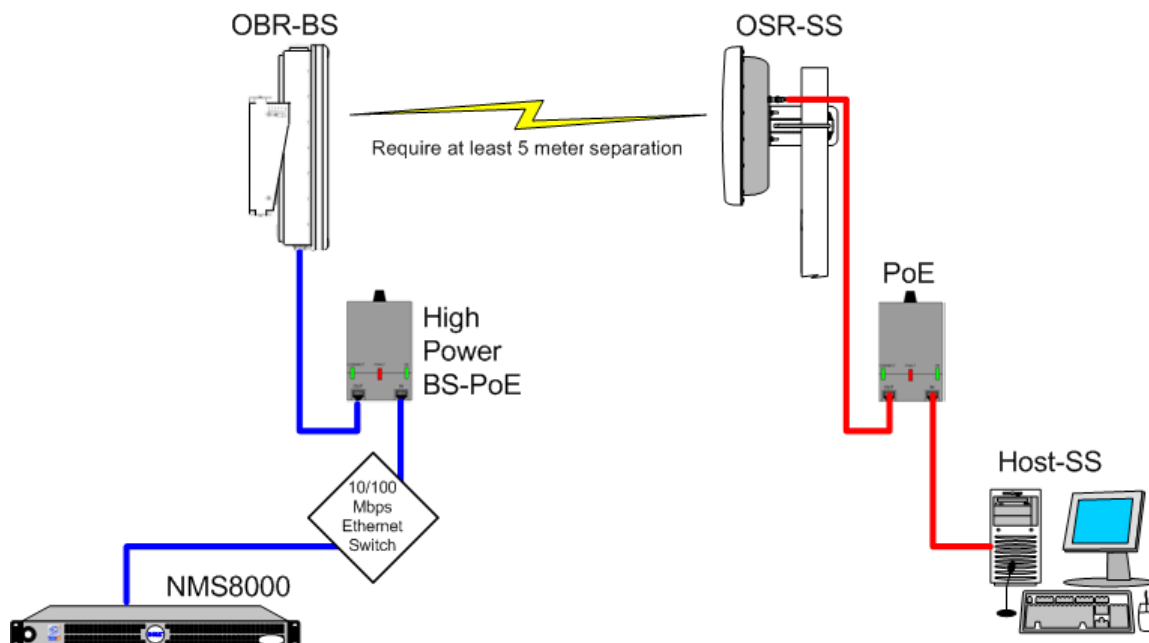

Figure 3-1 Using NMS8000 to Provision VistaMAX System
- Step 1** Use CAT5 straight-through Ethernet cables to connect the physical components as shown in Figure 3-1, on page 3-1.